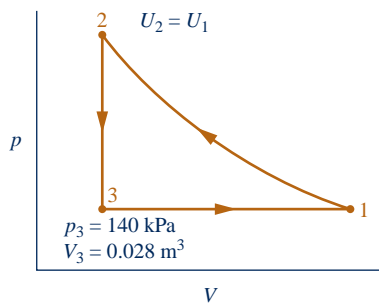

Fig. P2.77
2.77 As shown in Fig. P2.77, a gas within a piston–cylinder assembly undergoes a thermodynamic cycle consisting of three processes in series: